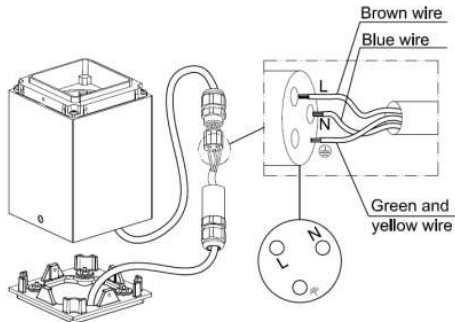

Fig. 3
- Connect the luminaire to the mains supply ensuring the correct polarity is observed: Live (brown), Earth (green/yellow), Neutral (blue) (see Fig. 3)